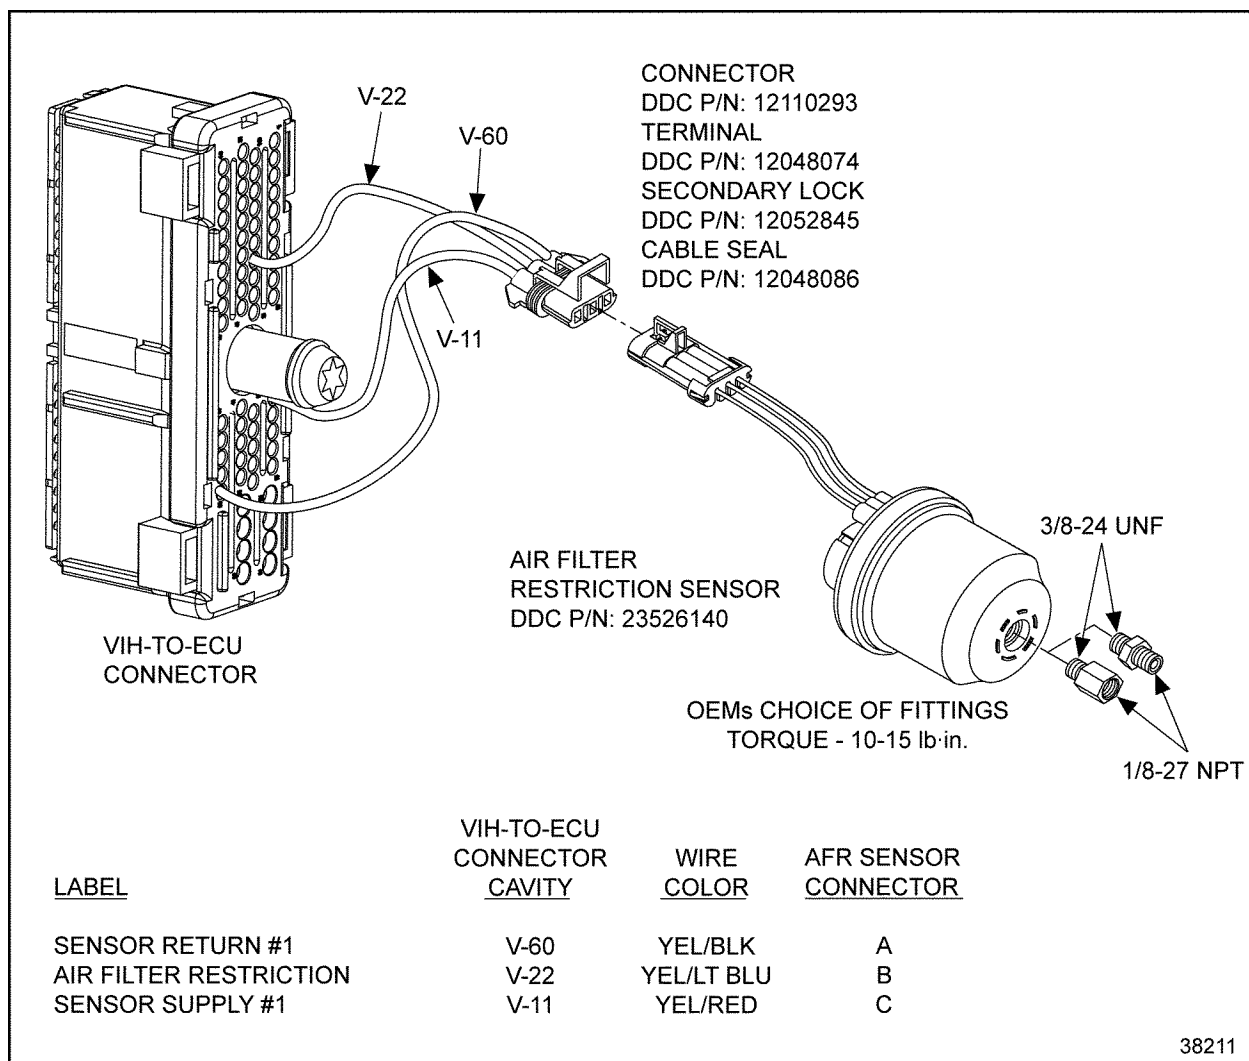

Figure 61-3 VIH Connector to Air Filter Restriction Sensor
2. Disconnect AFRS connector and install a jumper wire between sockets B and C of the AFRS harness connector. See Figure 61-3.
2. Disconnect the VIH connector at the ECM/ECU. See Figure 61-3.